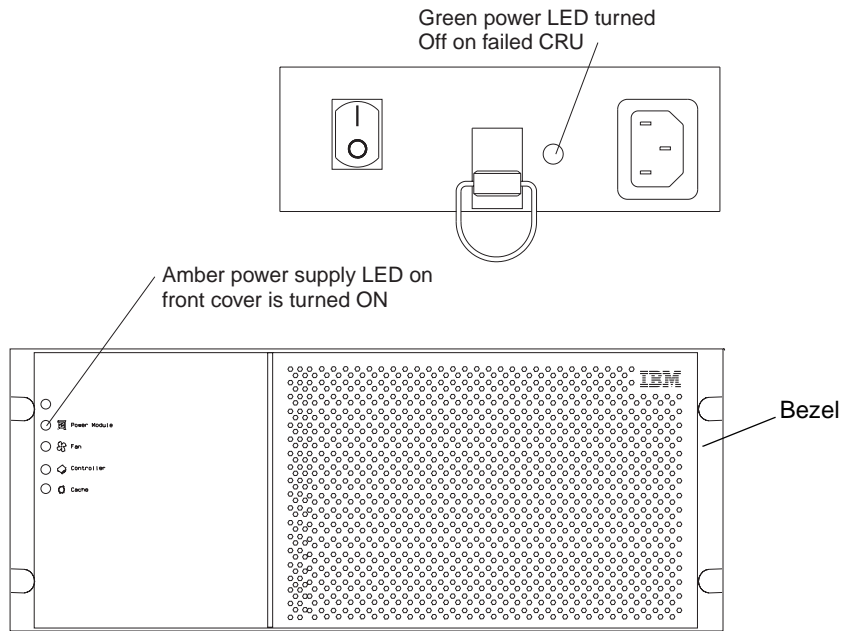

Figure 26. Fault Indicators for a Failed Power Supply
2. Check the LEDs on the front and back of the controller unit (Figure 26 on page 51).